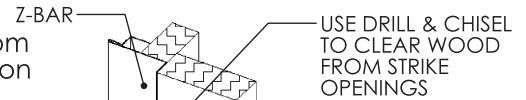

FIGURE 6
3. Using a drill and chisel, clear the wood from all of the strike openings behind the Z bar a **minimum** of 3/4" deep. (See figure 6).